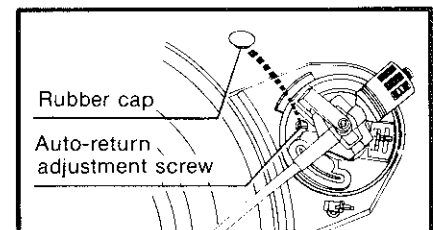

Fig. 17
• Adjustment of automatic return position (Fig. 17)